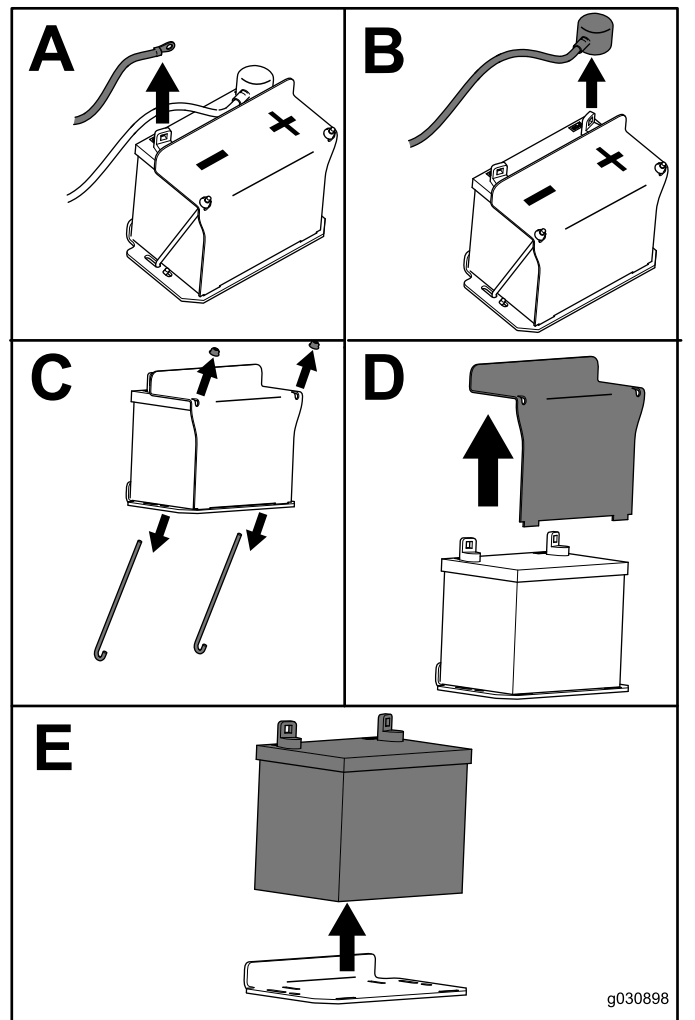

Figure 48
3. Remove the battery as shown in Figure 48.